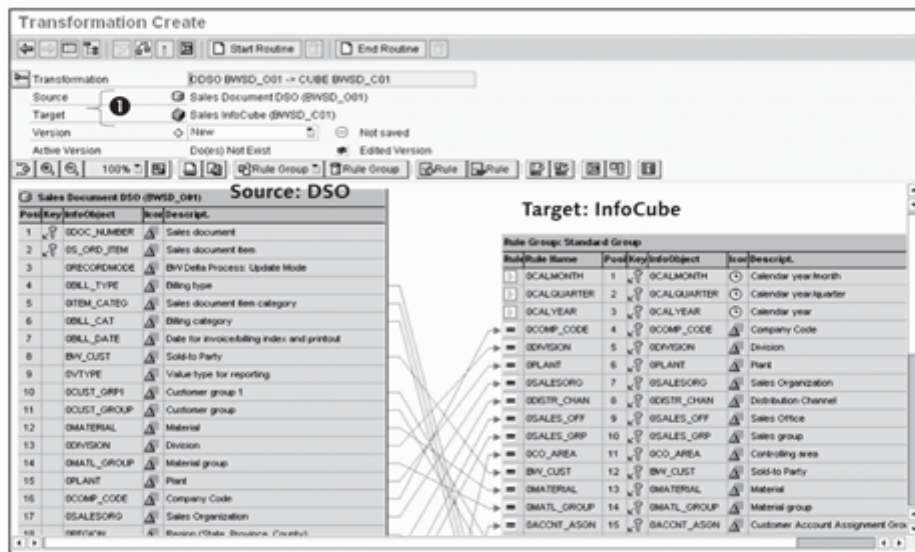

Figure 7.71 Transformation Screen
Click on the Continue icon (❾), which displays the Transformation Create screen in Figure 7.71. The source (Sales Document DSO BWSD_O01) and target (Sales InfoCube BWSD_C01) objects are displayed as shown in ❶ of Figure 7.71. Because the source is a DSO, the left side of the screen displays the names of InfoObjects instead of fields. The system offers direct assignment transformation whenever the name of the InfoObject in the source and target matches.